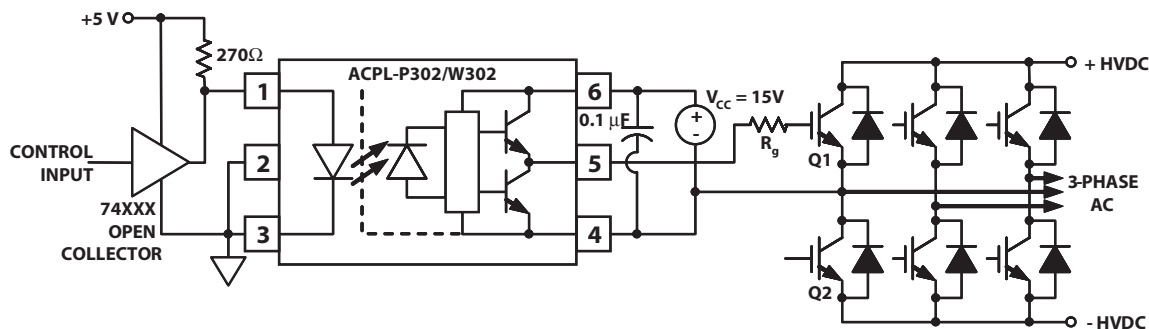
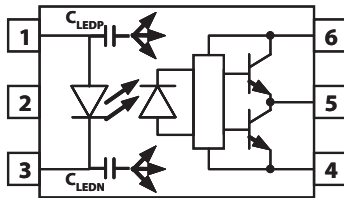
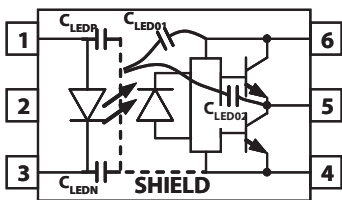
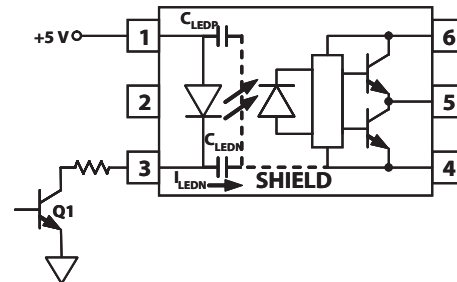

Figure 17. Recommended LED Drive and Application Circuit for ACPL-P302/W302
Figure 19. Optocoupler Input to Output Capacitance Model for Unshielded Optocouplers.
Figure 20. Optocoupler Input to Output Capacitance Model for Shielded Optocouplers.
Figure 22. Not Recommended Open Collector Drive Circuit.
To keep the IGBT firmly off, the ACPL-P302/W302 has a very low maximum V_{OL} specification of 1.0 V. Minimizing R_g and the lead inductance from the ACPL-P302/W302 to the IGBT gate and emitter (possibly by mounting the ACPL-P302/W302 on a small PC board directly above the IGBT) can eliminate the need for negative IGBT gate drive in many applications as shown in Figure 17. Care should be taken with such a PC board design to avoid routing the IGBT collector or emitter traces close to the ACPL-P302/W302 input as this can result in unwanted coupling of transient signals into the input of ACPL-P302/W302 and degrade performance. (If the IGBT drain must be routed near the ACPL-P302/W302 input, then the LED should be reverse biased when in the off state, to prevent the transient signals coupled from the IGBT drain from turning on the ACPL-P302/W302.
Step 1: Calculate R_g minimum from the I_{OL} peak specification. The IGBT and R_g in Figure 17 can be analyzed as a simple RC circuit with a voltage supplied by the ACPL-P302/W302.
where $K_{ICC} \cdot Q_g \cdot f$ is the increase in I_{CC} due to switching and K_{ICC} is a constant of 0.001 mA/(nC*kHz). For the circuit in Figure 17 with I_F (worst case) = 10 mA, $R_g = 57.5 \Omega$, Max Duty Cycle = 80%, $Q_g = 100$ nC, $f = 20$ kHz and $T_{MAX} = 85^\circ\text{C}$:
Without a detector shield, the dominant cause of optocoupler CMR failure is capacitive coupling from the input side of the optocoupler, through the package, to the detector IC as shown in Figure 19. The ACPL-P302/W302 improves CMR performance by using a detector IC with an optically transparent Faraday shield, which diverts the capacitively coupled current away from the sensitive IC circuitry. However, this shield does not eliminate the capacitive coupling between the LED and optocoupler pins 5-8 as shown in Figure 20. This capacitive coupling causes perturbations in the LED current during common mode transients and becomes the major source of CMR failures for a shielded optocoupler. The main design objective of a high CMR LED drive circuit becomes keeping the LED in the proper state (on or off) during common mode transients. For example, the recommended application circuit (Figure 17), can achieve 10 kV/ μ s CMR while minimizing component complexity.
The open collector drive circuit, shown in Figure 22, can not keep the LED off during a $+dV_{CM}/dt$ transient, since all the current flowing through C_{LEDN} must be supplied by the LED, and it is not recommended for applications requiring ultra high CMR_L performance. The alternative drive circuit which like the recommended application circuit (Figure 17), does achieve ultra high CMR performance by shunting the LED in the off state.